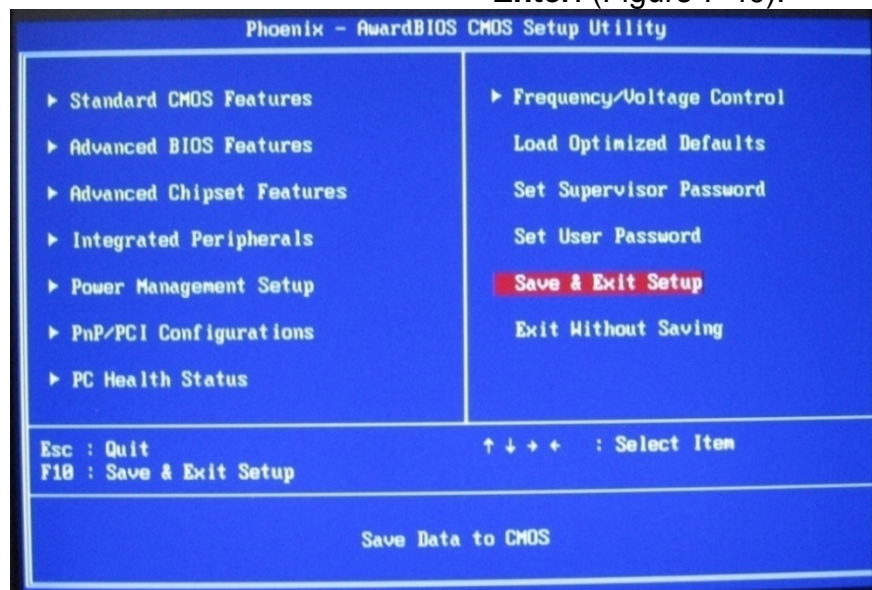

Figure 7-40 Main BIOS Utility
30. Press **Escape** to return to the **Main BIOS Utility** page. Scroll down and select **Save and Exit Setup**. Press **Enter**. (Figure 7-40).